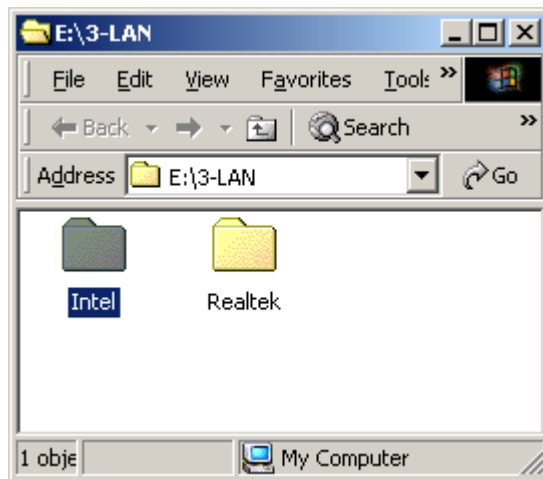

Figure 7-18: Select the Driver Folder
Step 2: A new window opens (Figure 7-18).